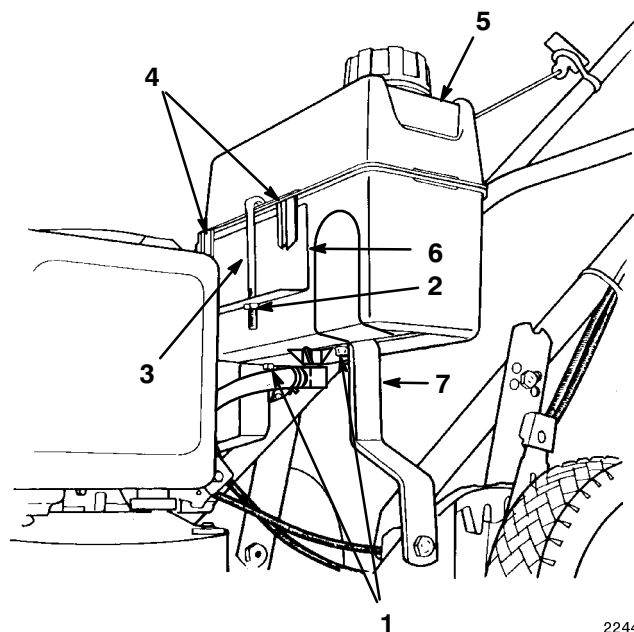

Figure 4
1. Start the self-tapping screws into the bottom of the fuel tank, then remove the screws (Fig. 4).
2. Hook the plastic clips on the rear of the fuel tank onto the fuel tank bracket (Fig. 4).
3. Secure the fuel tank to the tank base with two self-tapping screws (Fig. 4). *Do not overtighten the screws.*
4. Hook the fuel tank retainer onto the fuel tank and slide the end of the fuel tank retainer into the hole in the fuel tank bracket (Fig. 4).
5. Secure the fuel tank retainer to the fuel tank bracket with a locknut (Fig. 4).